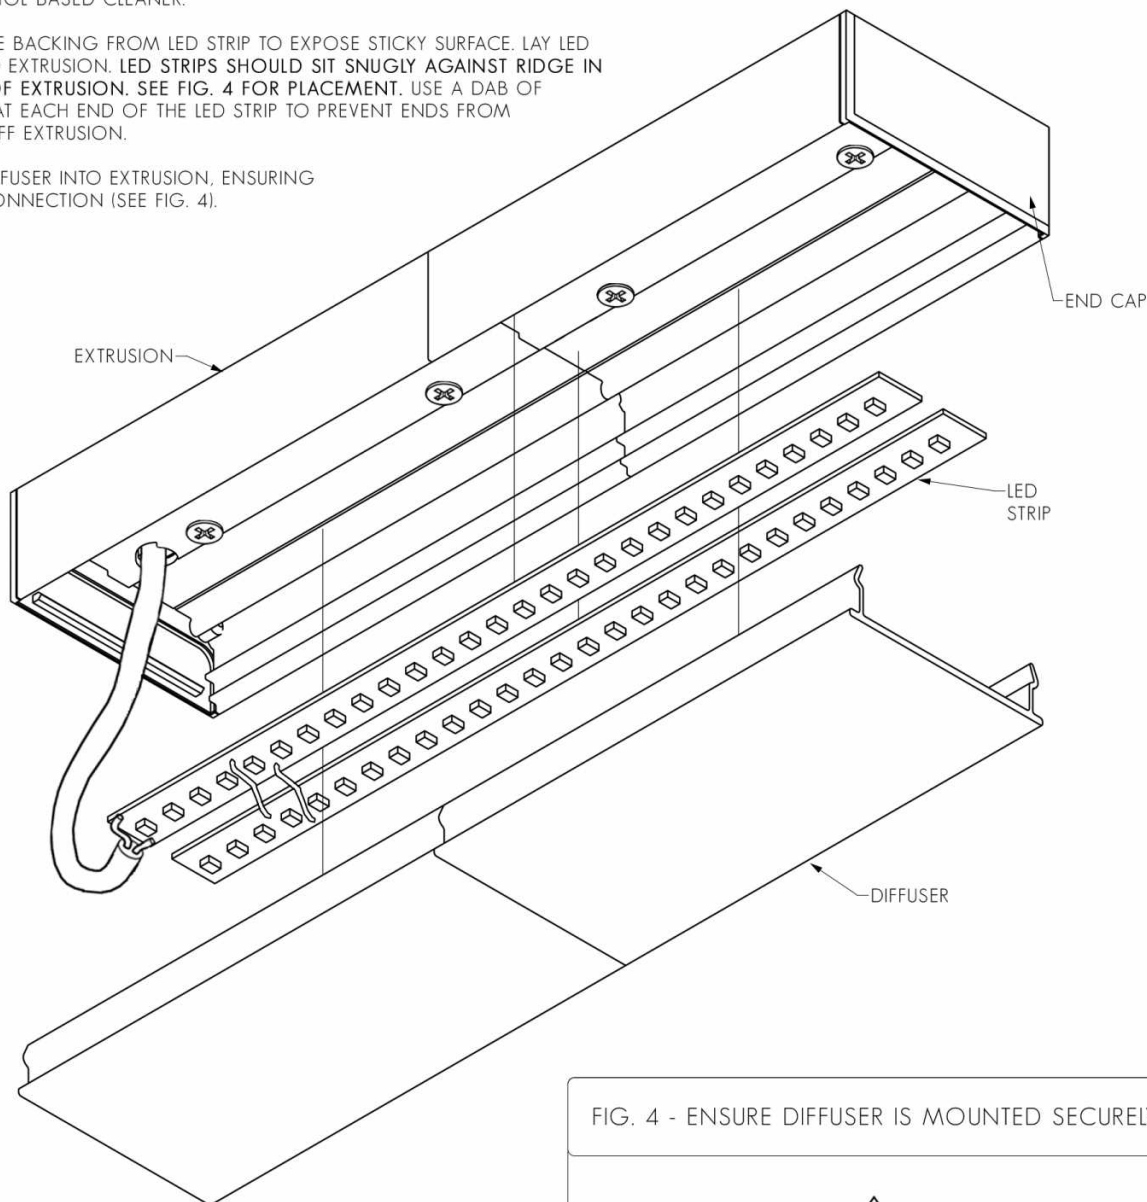

FIG. 4 - ENSURE DIFFUSER IS MOUNTED SECURELY
2. REMOVE BACKING FROM LED STRIP TO EXPOSE STICKY SURFACE. LAY LED STRIP INTO EXTRUSION. LED STRIPS SHOULD SIT SNUGLY AGAINST RIDGE IN CENTRE OF EXTRUSION. SEE FIG. 4 FOR PLACEMENT. USE A DAB OF SILICON AT EACH END OF THE LED STRIP TO PREVENT ENDS FROM LIFTING OFF EXTRUSION.
3. CLIP DIFFUSER INTO EXTRUSION, ENSURING A FIRM CONNECTION (SEE FIG. 4).